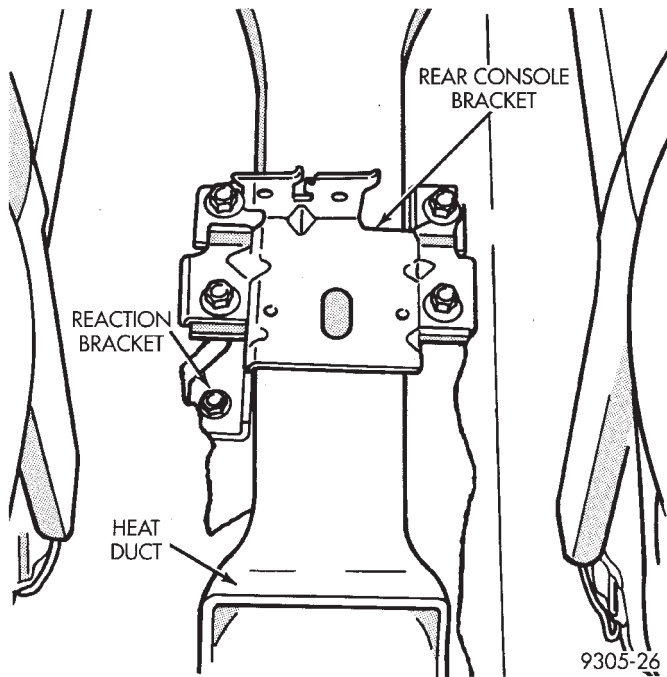

Fig. 26 Console Mounting Bracket And Heat Duct
(1) Fold carpeting back into position on left floor pan of vehicle. Install throttle pedal and bracket back on dash panel studs and install attaching nuts.
(2) Install rear passenger compartment heat duct (Fig. 26) back into vehicle. Install rear console assembly mounting bracket (Fig. 26) on park brake cable reaction bracket. Torque rear console assembly mounting bracket to reaction bracket mounting bolts to 10 N•m (88 in. lbs.).